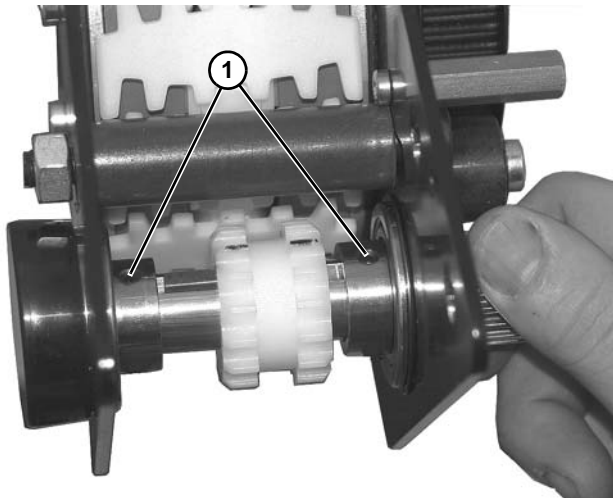

Figure 174
2. Secure drive shaft onto bearings with two set screws (**Figure 174, item 1**).